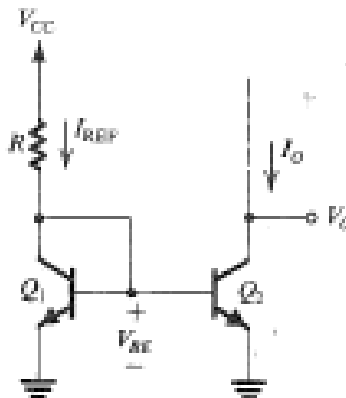
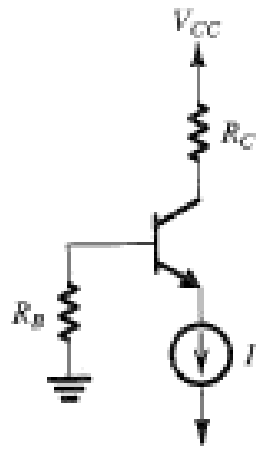

FIGURE 1
FIGURE 2
- Implement the circuit given in figure 2, using current source in figure 1.
- Implement the circuit in figure 2 of previous lab session using above current source, using potentiometer in place of  $I_{ref}$